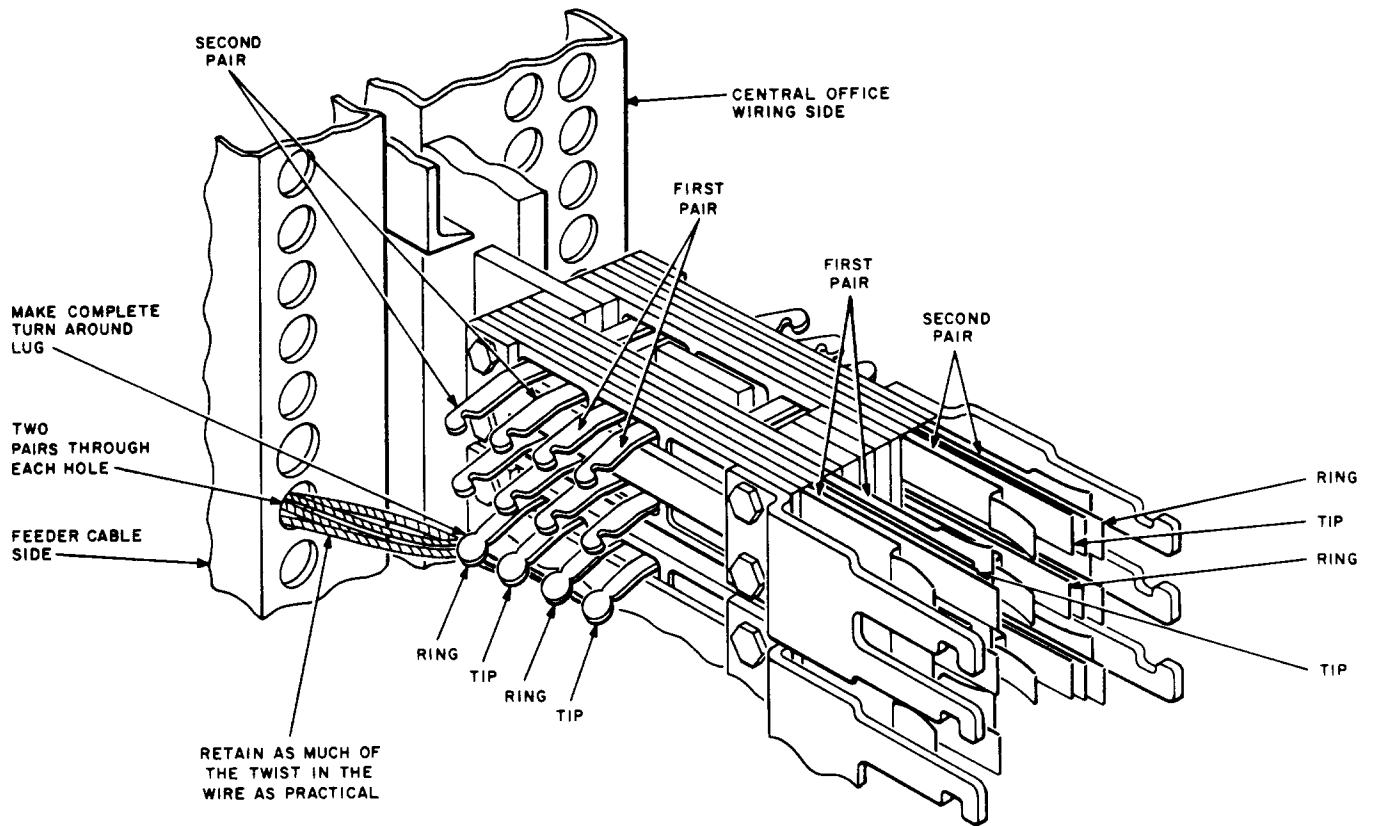

Fig. 9—44-Type Jack (301-Type Connector) Mounting and Terminating
2.06 The 444-type jack (301-type connector) is used to terminate unexposed cable conductors (Fig. 9) and does not provide protection.